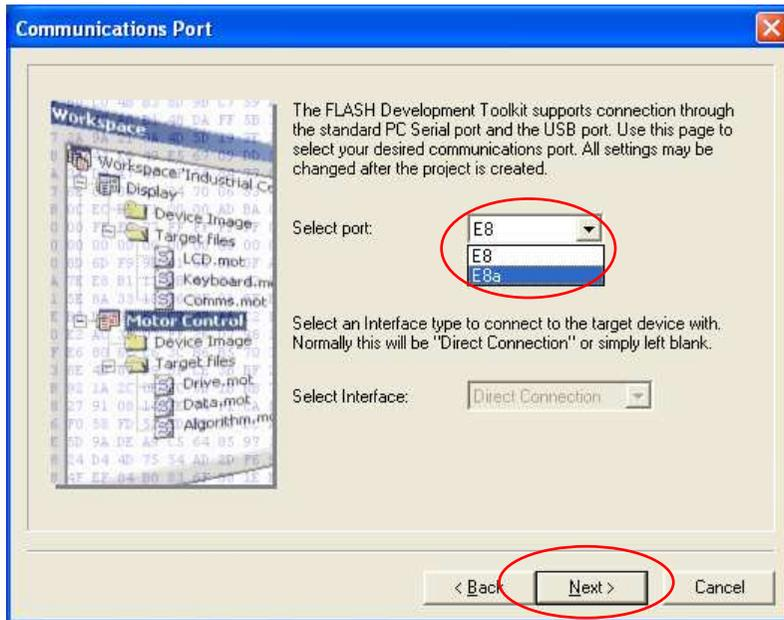

Figure 73
21. Select **E8a** from the drop-down window (Figure 73)